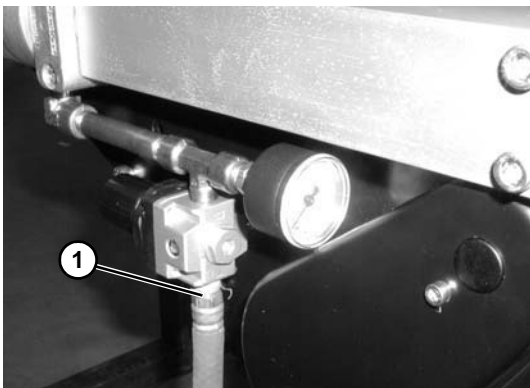

**Figure 30**
2. On tension end of the conveyor, identified by the pinion access slot (**Figure 30, item 1**), loosen the two tail clamp bolts (**Figure 30, item 2**) on both sides of the conveyor and push head plate assembly (**Figure 30, item 3**) inward.